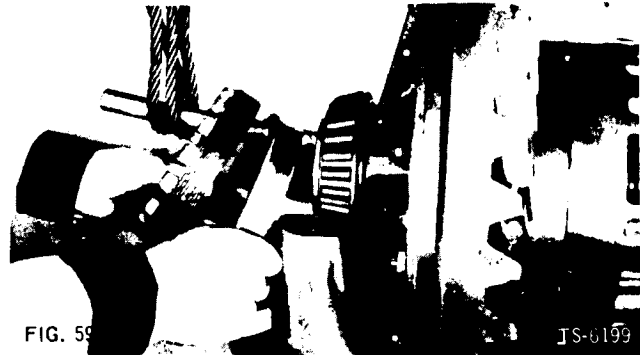

FIG. 59
- Insert metal bar through differential to facilitate hoisting. Raise ends individually and remove adjusting nuts and bearing cups (Fig. 59).